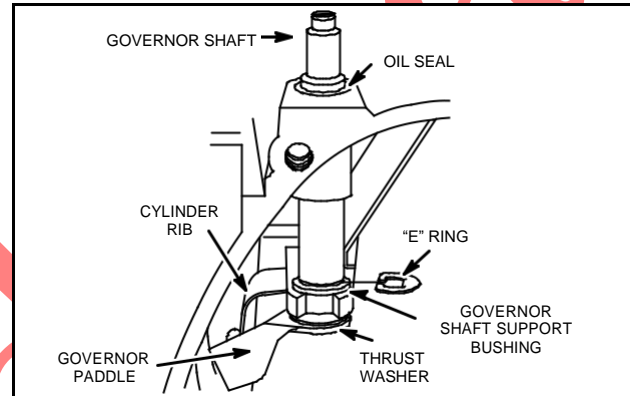

Fig. 19 – Governor Shaft Assembly (Twin)
2. Assemble thrust washer to governor shaft and insert governor shaft through lower and upper bushings. Fig. 19.
6. Push governor paddle against cylinder rib, Fig. 19.